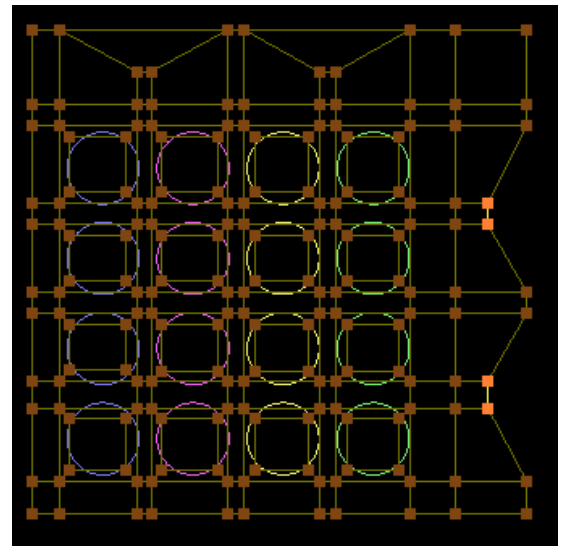

Figure 32.2
- Move the corners to form the loop as shown in figure 32.2.